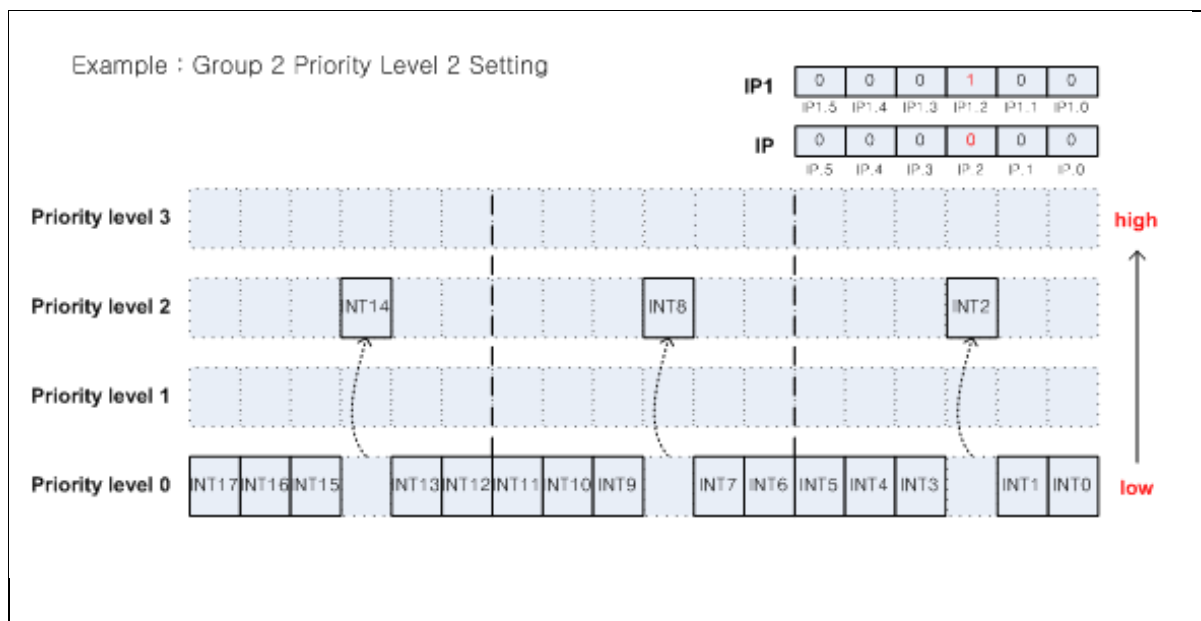

Figure 10. Interrupt Group Priority Level
Figure 10 introduces interrupt groups and their priority levels that is available for sharing interrupt priority. Priority of a group is set by 2 bits of Interrupt Priority (IP) registers: 1 bit from IP and another 1 bit from IP1.